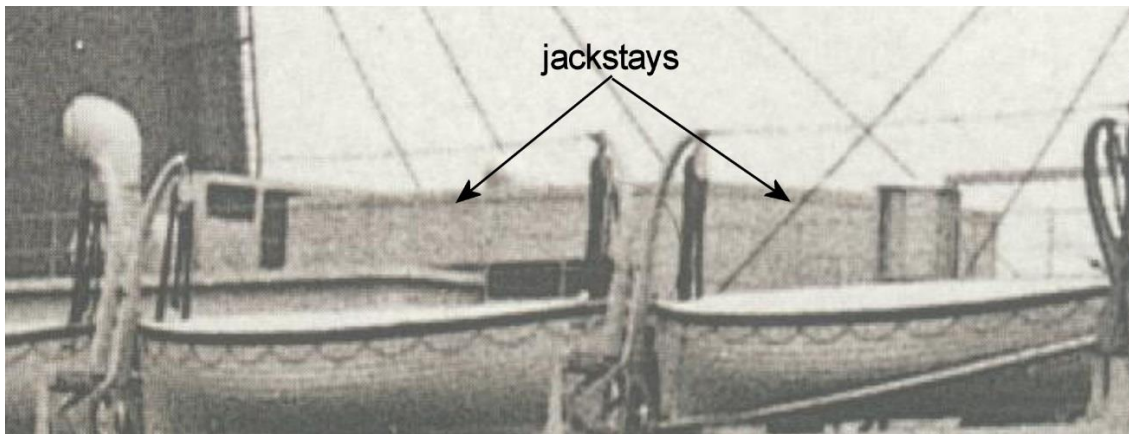

Figure 2
*Titanic* also had these jackstays on her forward cover which can be seen although less clearly in Figure 2.